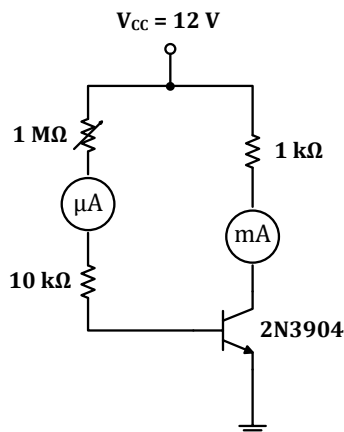

Figure 1.3
1. Construct the circuit shown in Figure 1.3 on your own breadboard.